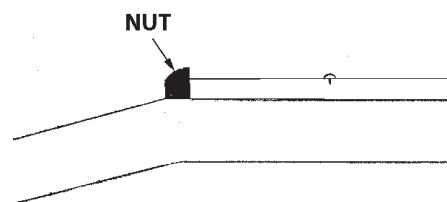

FIG. 17
- 15. Fit the blackwood nut against the narrow end of the fretboard and shape it down to match the illustration here. (fig. 17) It should stand at least 1/16" above the surface of the fretboard, and the top can be sloped downward toward the peghead for easier filing of string notches.